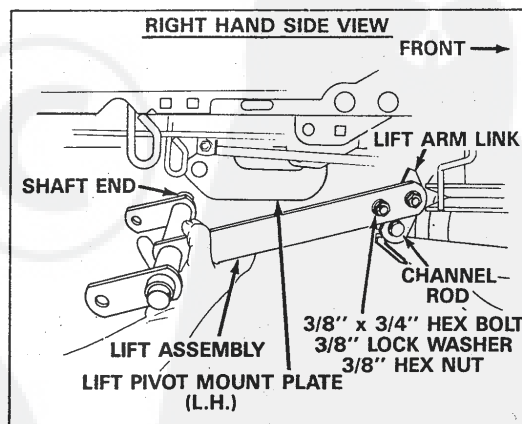
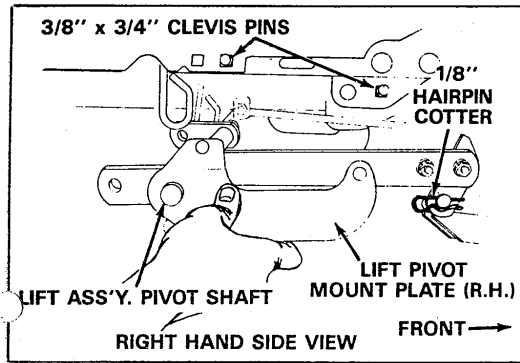

FIGURE 13
FIGURE 14
- Assemble one 3/8" x 3/4" hex bolt from inside, through second hole from end of long arm. Secure with one 3/8" lock washer and one 3/8" hex nut on outside. This bolt is used as a limit stop for the lift arm link. See figure 13.
- Assemble lift arm link (lift assembly) over channel rod and insert pivot shaft end (from R.H. side of tractor) into hole in L.H. lift pivot mount plate. See figure 13. Secure lift arm link to channel rod with 1/8" (large) hairpin cotter. See figure 14.
- Assemble **right hand lift pivot plate**, (stamped R.H.), over right hand end of lift assembly pivot shaft and connect to outside of frame (see figure 14) using two $3/8'' \times 3/4''$ clevis pins from inside. Secure with two $3/32''$ (small) hairpin cotters and two $1/8''$ (large) hairpin cotters assembled to each end of pivot shaft. See figure 14.